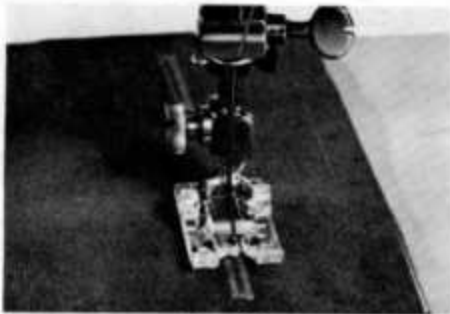

Fig. 31
- 1) Replace presser foot with special purpose button hole foot. It provides maximum visibility and allows closely spaced stitches to feed evenly. Fig. 31.